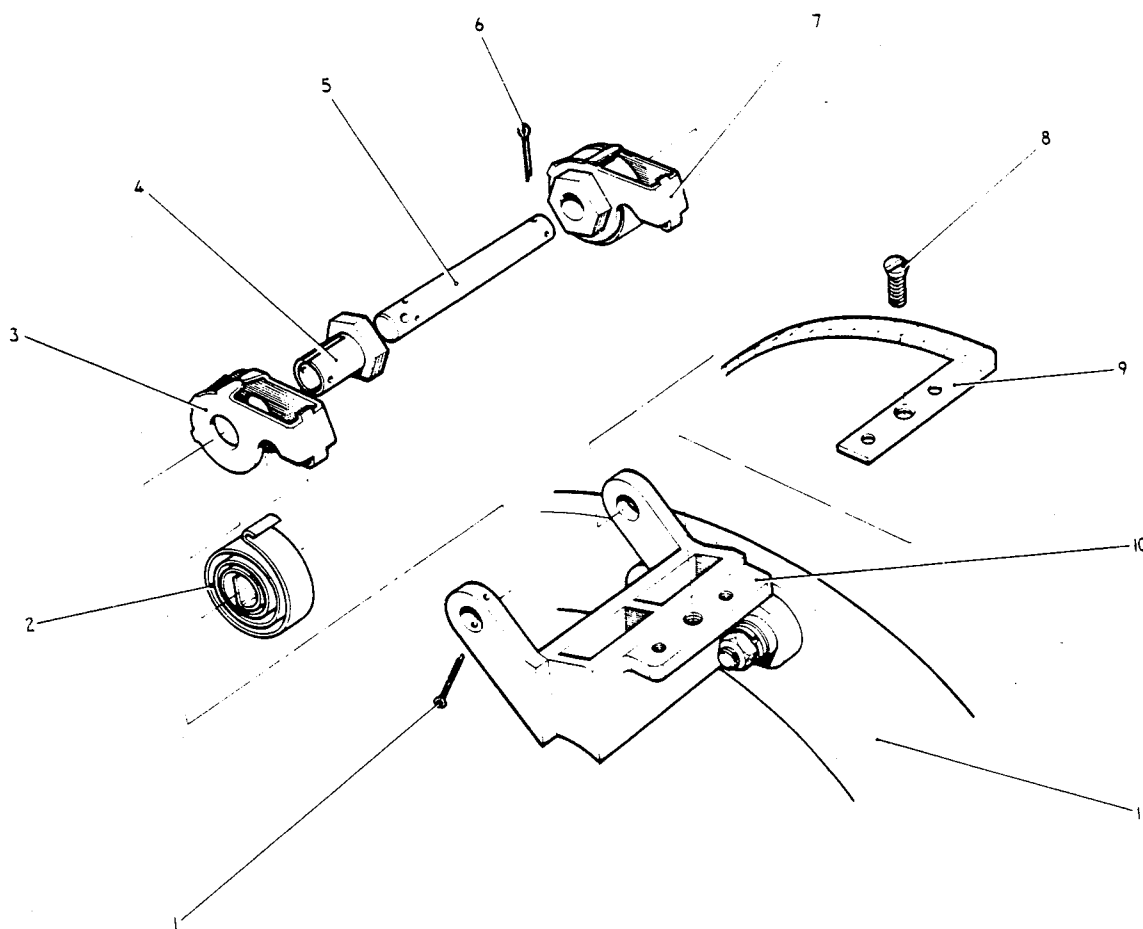

Fig.4 Generator brushgear - part exploded view
Key to fig.4
(2) Check each brush spring for correct tension. With brush trigger in line with outer face of brush box, tension is to be between 23 and 29 oz (652 and 822 gramme). To adjust tension refer to fig. 4 and proceed as follows:-
(3) To renew a brush spring or other component refer to fig. 4 and proceed as follows: